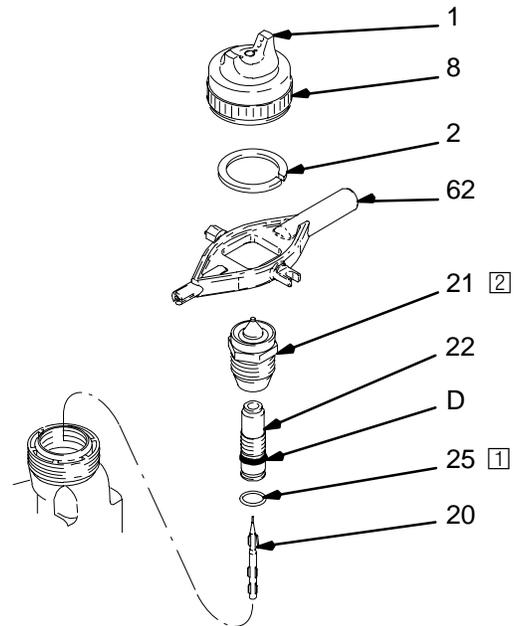

Fig. 16
2. Remove the air cap assembly (1, 2, 8). See Fig. 16, page 31.
The resistor stud contact ring (D) is a conductive contact ring, **not** a sealing o-ring. See Fig. 16. To reduce the risk of sparking, which could cause a sparking or electric shock, **do not** remove the resistor stud contact ring (D) or operate the gun without the contact ring in place. Do not replace the resistor stud (22) with anything but a genuine Graco part.
- Remove the retaining ring (2) to free the air cap (1) from the retaining nut (8).
- Lightly lubricate the o-ring (25) with petroleum jelly, and install it on the resistor stud (22). See Fig. 16.
- Trigger the gun while installing the fluid nozzle (21) and resistor stud (22) assembly with the multi-tool (62). Tighten the assembly until the fluid nozzle seats in the gun barrel (1/8 to 1/4 turn past hand-tight). See Fig. 16.
- Install the air cap (1) into the retaining nut (8), and secure it with the retaining ring (2).
- Carefully install the air cap assembly (1, 2, 8) onto the gun barrel. Do not bend the electrode (20) wire, and be sure to insert the electrode wire through the *center* air cap hole. Rotate the air cap horns to the desired position.
- Tighten the retaining nut (8) until the air cap is held firmly in place; you should not be able to rotate the air cap horns by hand.
- 1 Apply a very light coat of lubricant to the o-ring (25).
- 2 Tighten the nozzle (21) hand-tight, then 1/8 to 1/4 turn more.